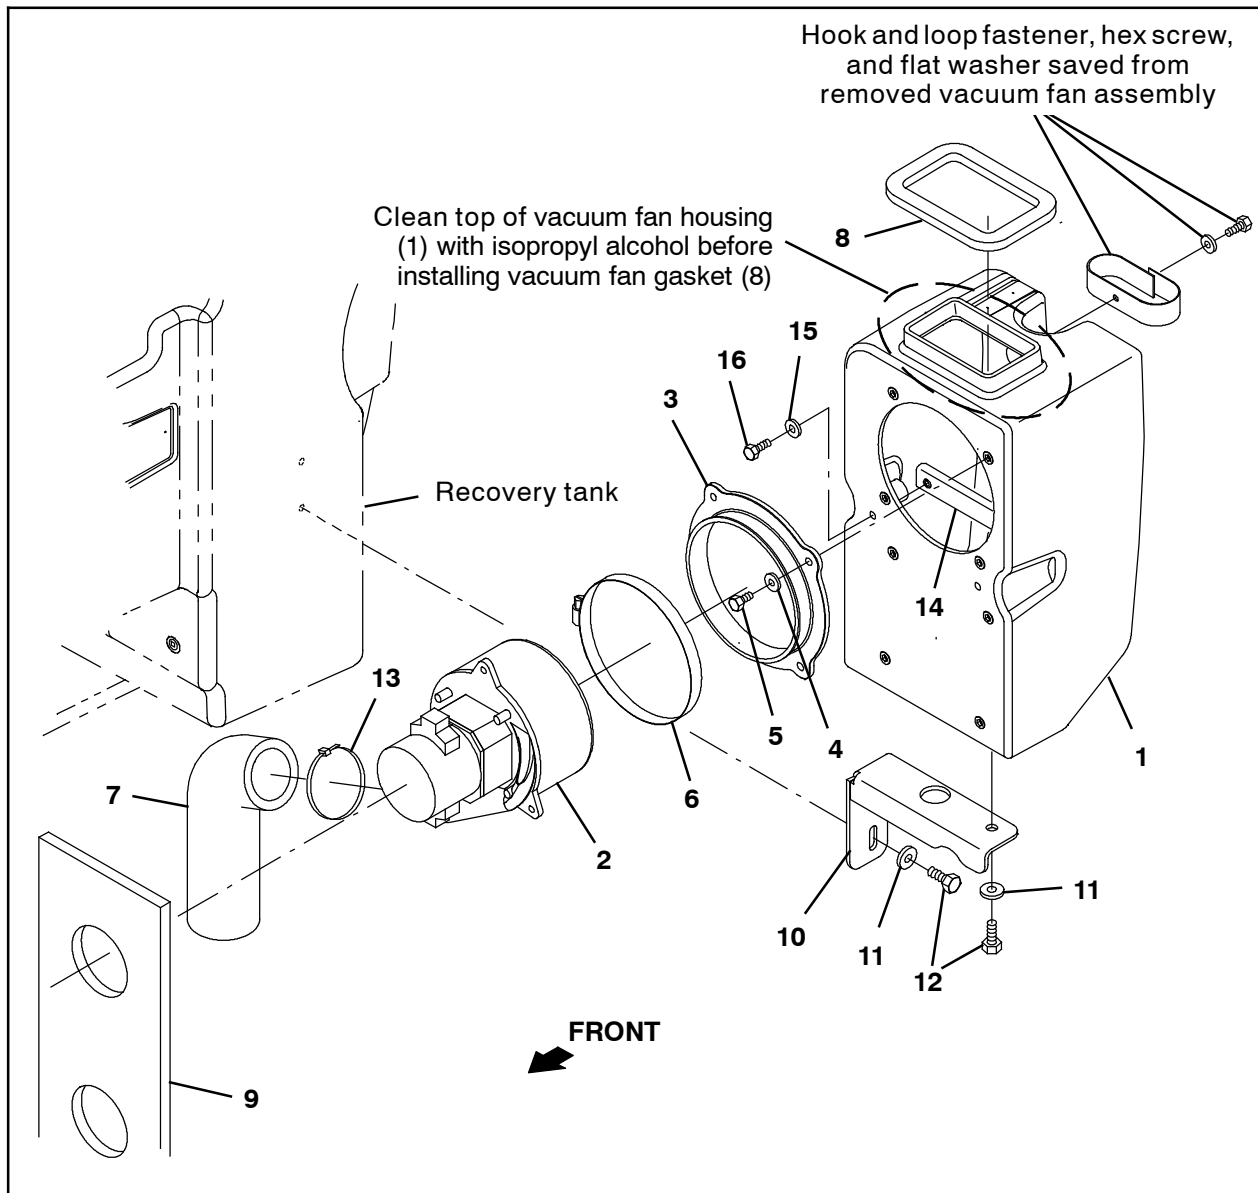

FIG. 1
1. Remove the hardware securing the vacuum fan assembly to the machine and carefully remove the vacuum fan assembly from the machine. (Fig. 1)
3. **Machines without optional vacuum wand only:** Remove the hook and loop fastener from the removed vacuum fan. Set the hook and loop fastener, hex screw, and flat washer aside. Discard the removed vacuum fan assembly. (Fig. 1)
4. Use two M6 hex screws (16) and two sealing washers (15) to install the stiffener bracket (14) onto the vacuum fan housing (1). (Fig. 1)
5. Apply a light bead of RTV silicone adhesive sealant onto the vacuum fan mounting seal (3). (Fig. 1)
6. Use four hex screws (5) and four flat washers (4) to install the vacuum fan mounting seal (3) onto the vacuum fan housing (1). (Fig. 1)
7. Use a hose clamp (6) to install the vacuum fan (2) onto the vacuum fan mounting seal (3) / vacuum fan housing (1). (Fig. 1)
8. Use a cable tie (13) to install the vacuum fan muffler (7) onto the vacuum fan (2). (Fig. 1)
9. **Machines without optional vacuum wand only:** Install the saved hook and loop fastener onto the vacuum fan housing (1). (Fig. 1)
13. Use isopropyl alcohol to clean the area on top of the vacuum fan housing (1) where the vacuum fan gasket (8) will be installed. (Fig. 1)
14. Install the vacuum fan gasket (8) onto the vacuum fan housing (1). (Fig. 1)
15. Use one M8 hex screw (12) and one flat washer (11) to install the fan bracket (10) onto the vacuum fan housing (1). (Fig. 1)
16. Connect the main wire harness to the vacuum fan (2). (Fig. 1)
17. Install the acoustic insulation (9) onto the vacuum fan assembly. (Fig. 1)
18. Use two M8 hex screws (12) and two flat washers (11) to install the vacuum fan assembly onto the recovery tank. (Fig. 1)